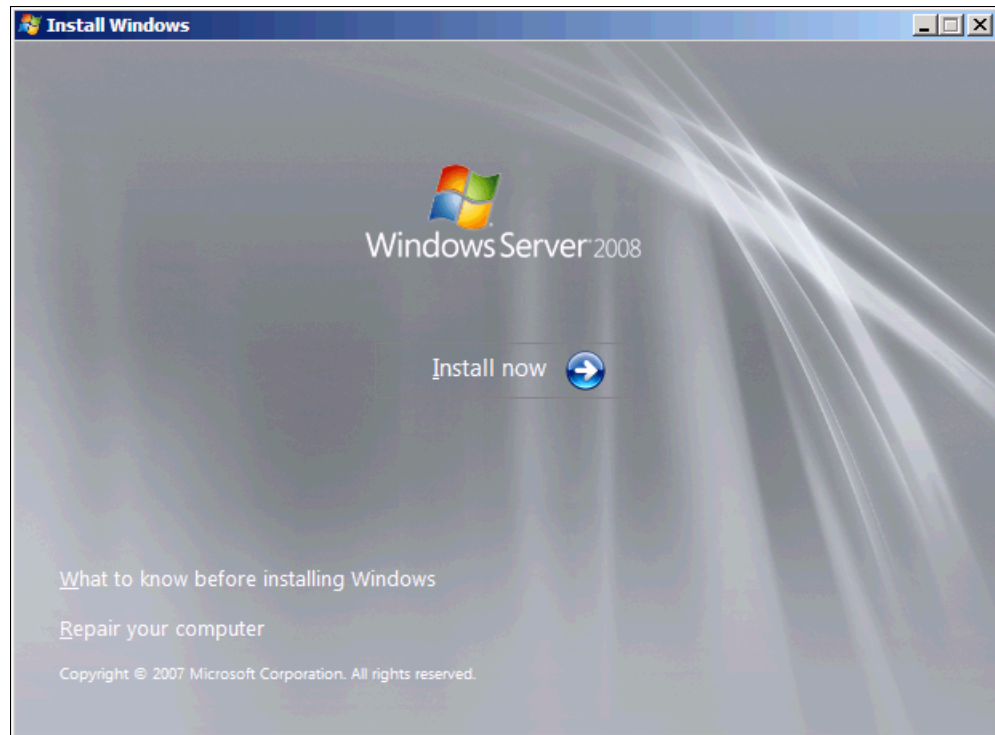

Figure 9-141 Install now button in the Install Windows panel
10. In the Install Windows panel (Figure 9-141), select **Install now**.